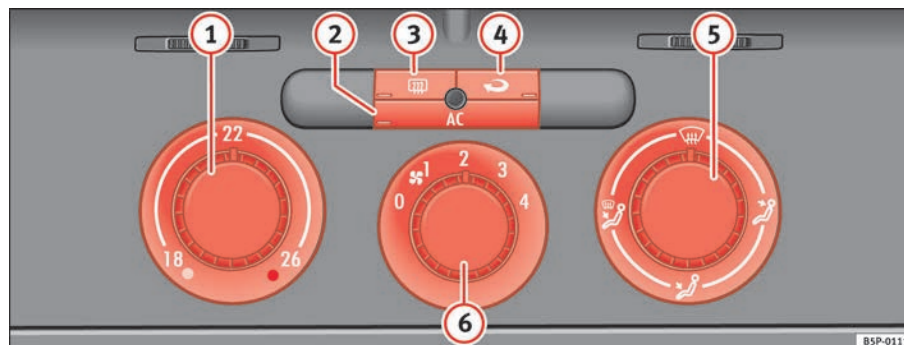

Fig. 129 On the dash panel: Climatic controls
- Using the controls ⇒ fig. 129 ① and ⑤ and the control ⑥ you can set the temperature, air distribution and the turbine speed.
- To switch a function on or off, press the appropriate button ②, ③ or ④. When the function is activated, the display window in the lower corner of the button is lit.
- ① Temperature selector ⇒ page 154
- ② Button [AC] – Heating, ventilation and air-conditioning system on/off ⇒ page 154
- ③ Button [] – Rear window heating. The heating will be switched off automatically approximately 20 minutes after switching on. It can also be switched off beforehand by pushing the button.
- ④ Button [] – Air recirculation mode ⇒ page 155
- ⑤ Air distribution control ⇒ page 154
- ⑥ Blower switch. There are four speed settings for the air flow. The air flow should always be set at the lowest speed when driving slowly.
- Switch on the air conditioning using the button ⇒ page 153, fig. 129 .